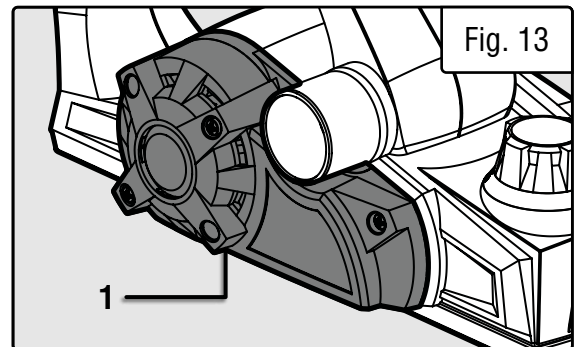

Fig. 13
1. Unscrew and open the motor cover (Fig. 13 - 1) on the right.